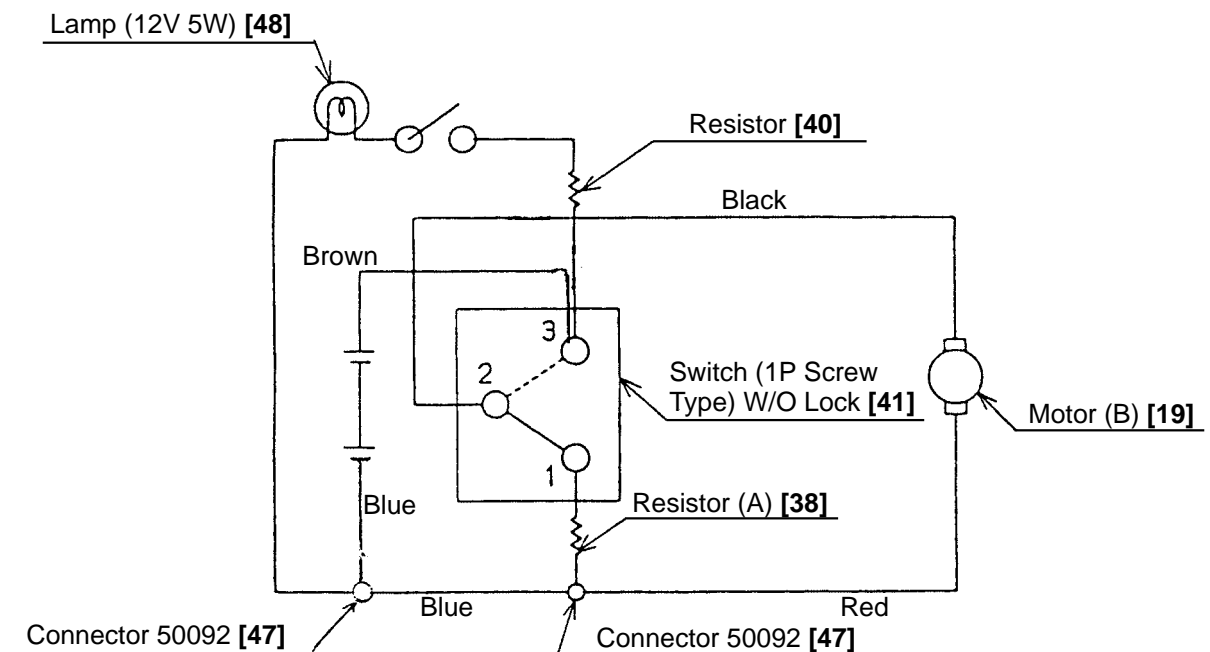

Fig. 9
(1) Reassembly of the components for power supply
- (a) Be sure to perform wiring connections as indicated in the wiring diagram. (Fig. 9)
Perform wiring as illustrated in Fig. 9. Note that wrong wiring can cause troubles such as rotation failure, inverse rotation and brake failure.